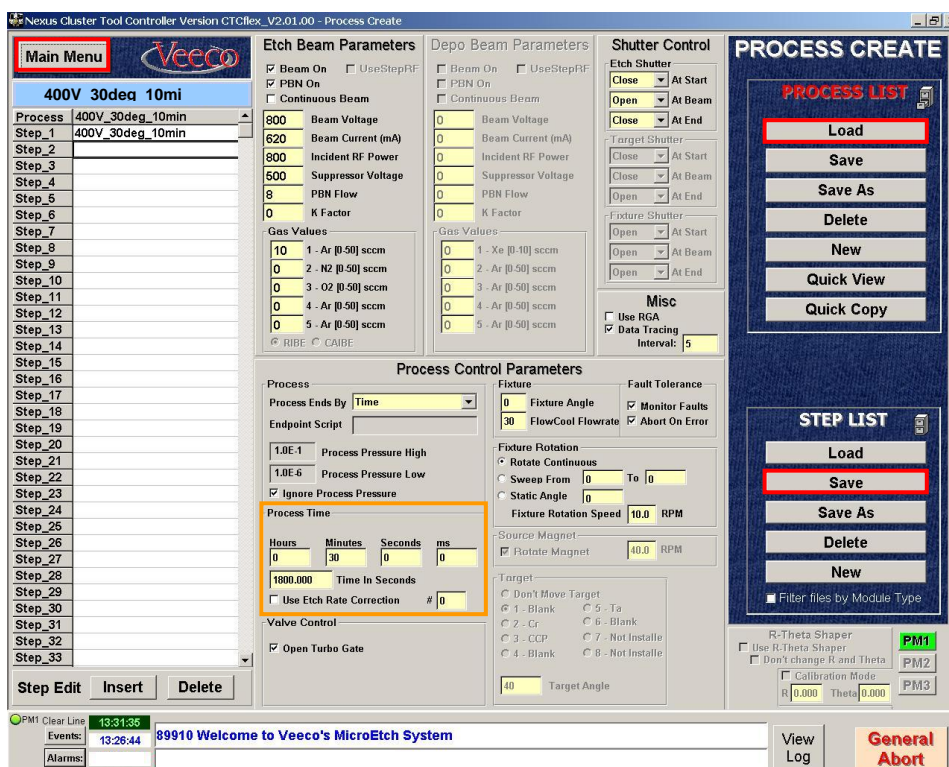

Fig.4: Process Create window
After pressing the **Process Create** button, the *Process Create* windows appears (Fig.4).
3.1.1 Press the **Load** button in the *Process list* part (Fig.4, top-right corner) and select your process from the displayed process list. The name of your process will appear at the left in the line above Step1 in the list. The distinct blue line right above the process line displays the name of a *step* involved in the process.
→ Users are not allowed to change any parameter settings, except for the *process time* setting Hours/Minutes/Seconds (in the orange rectangle in Fig.4). For parameter changes, or a new process set-up: please always consult the machine owner or back-up.
3.1.2 Adjust the process time and save it by pressing the **Save** button in the *Step list* part (Fig.4, at the right). If you don't know the exact process time, take plenty of time and stop the process manually on endpoint while it is running.